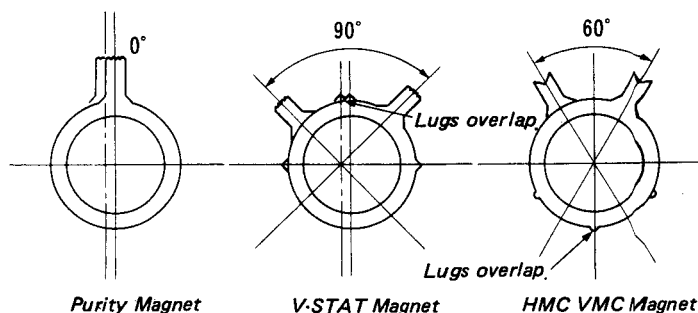

Fig. 3-2
2. Reduce the magnetism of each correction magnet in the replacement parts to zero field. (See Fig. 3-2.)